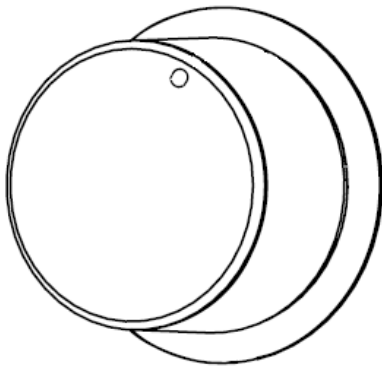

Fig. 14: Pop out on
- When cooking is finished, turn the switch to the off (top) position and press it inwards (Fig. 14).